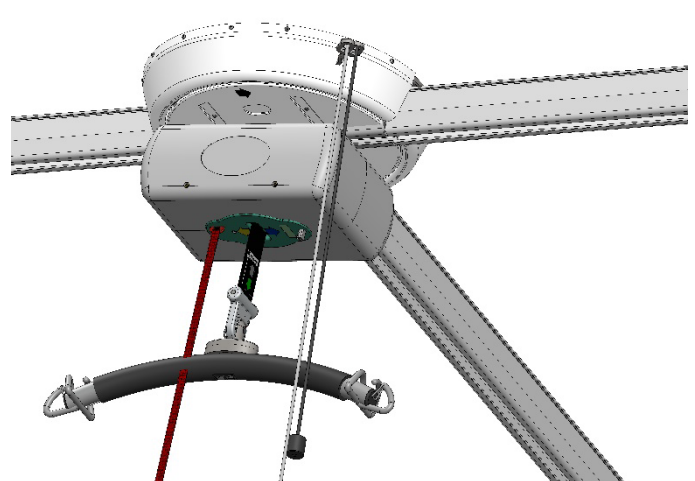

Figure 37
2. Position the hoist in the centre of the turntable rotating track piece. (Figure 37)
3. Grab hold of the looped pull cord and pull downward to rotate the turntable. The looped cord will match the arrow on the underside of the turntable cover. (black and black, white and white) (Figure 37 and 38)